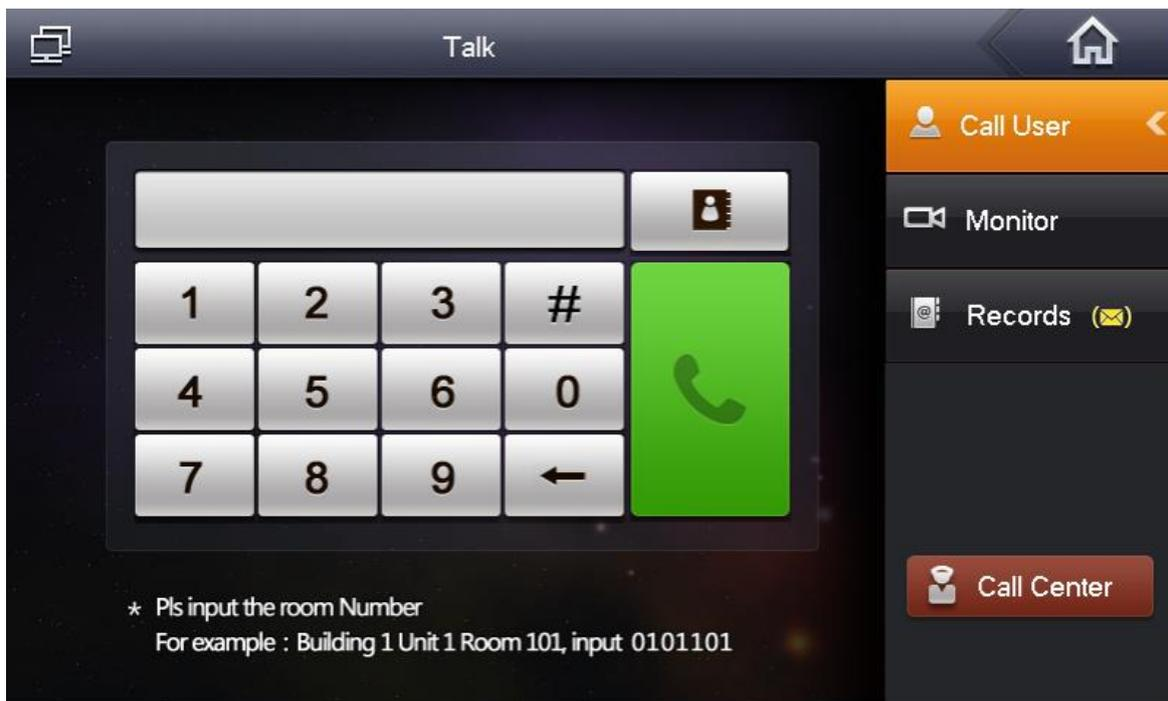

Figure 3-8
Step 1. Select Video Talk>Call User, see Figure 3-8.
Step 1. Select Video Talk> Call User. See Figure 3-8.